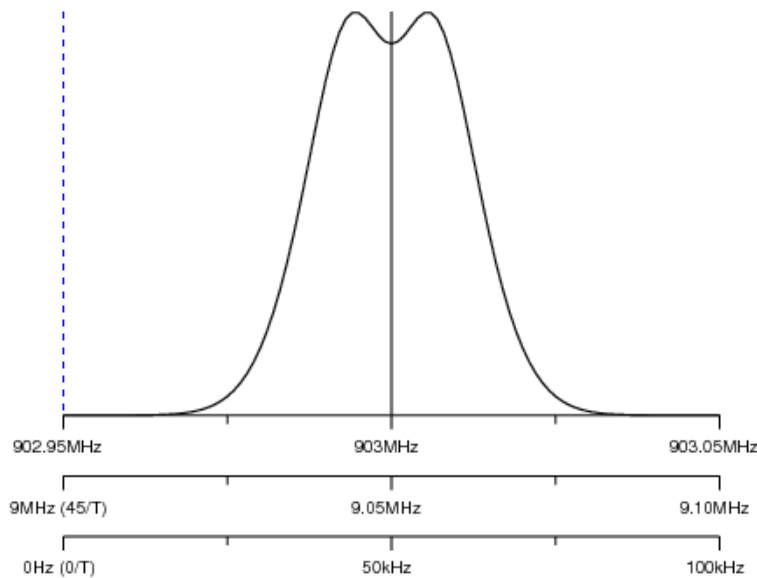

Figure 13: RF Signal, Translated.
Figure 13 on page 17 shows how this signal as it occurs in each of the three places above—only the frequency axis changes. In the original, it is centered on 903MHz (top axis). Once it is translated down by 893.95MHz, it forms an intermediate frequency (IF) signal centered on 9.05MHz (middle axis). When this IF signal is sampled11 at 200kHz the signal